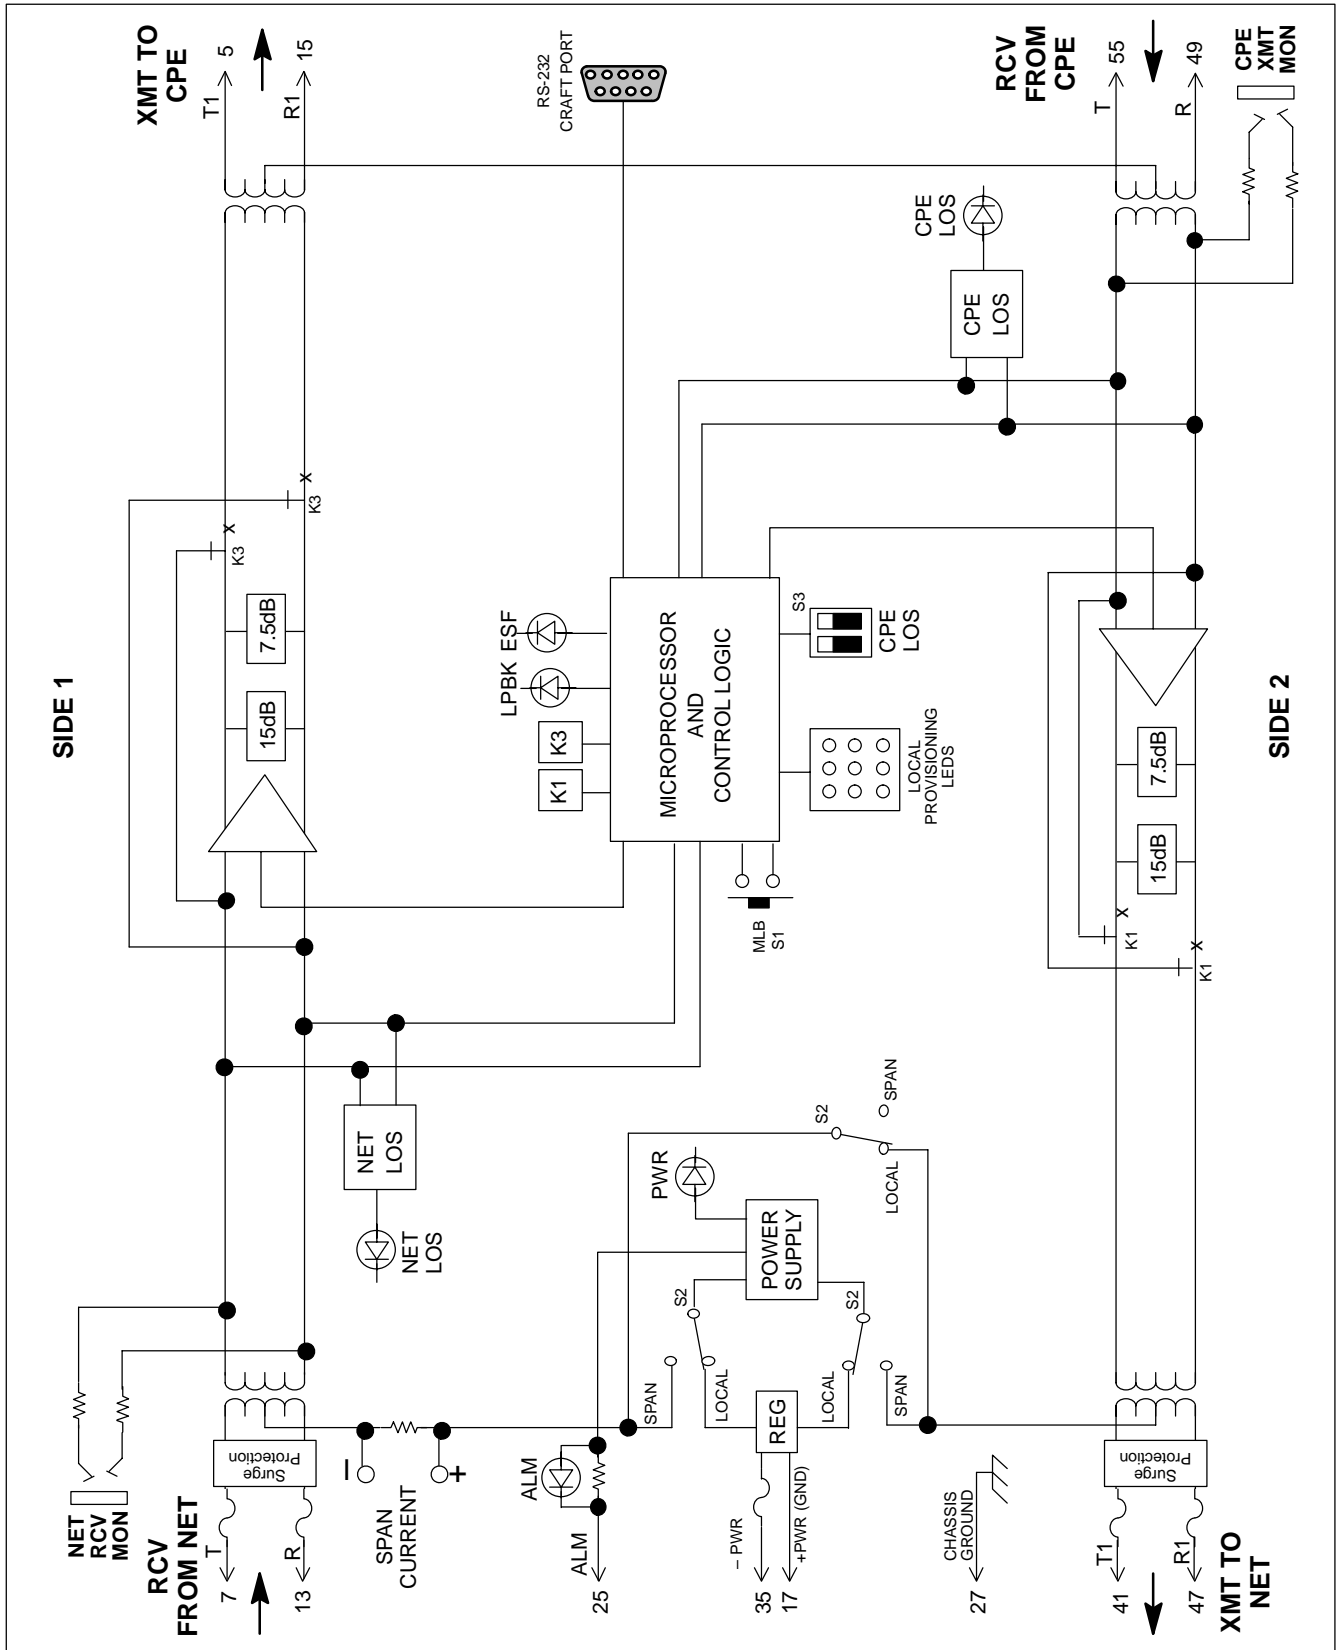

Figure 1. 520-50 Block Diagram
3.01 See Figure 1, the 520-50 Block Diagram, as needed, while reading the following description of operation.